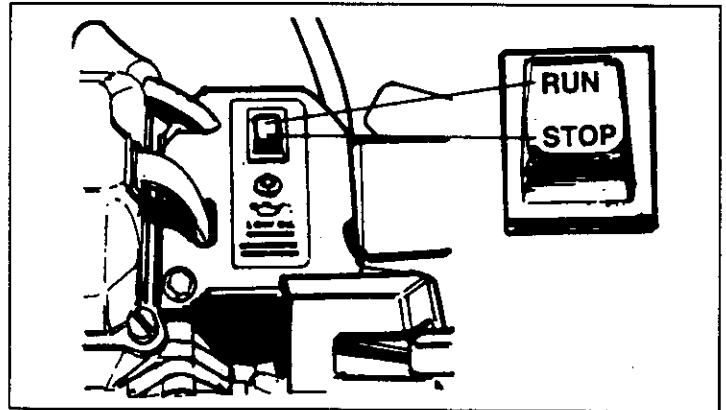

FIG. 6
- Locate the Run/Stop switch (Fig. 6) next to the engine cylinder head and set it to RUN.